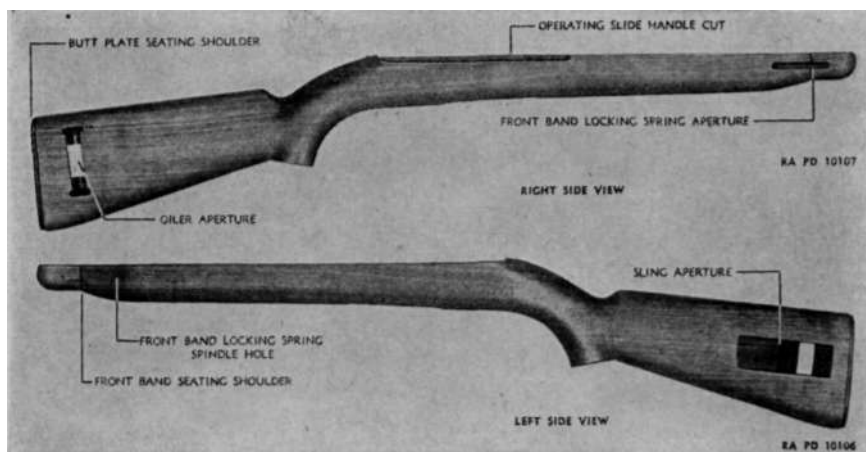

Figure 59. Stock showing apertures — carbines, cal. .30, M1.
a. STOCK (EXCEPT M1A1) (fig. 59). (1) Inspect stock for cracks, scoring, chipping, blemishes, and excessive dryness. Inspect cuts and apertures for chipping and burs, for wear due to interference with moving parts, and for excessive friction in assembling.